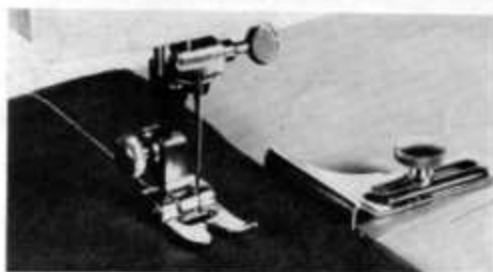

Fig. 40
- (a) Figure 40 indicates the way the cloth guide is attached.